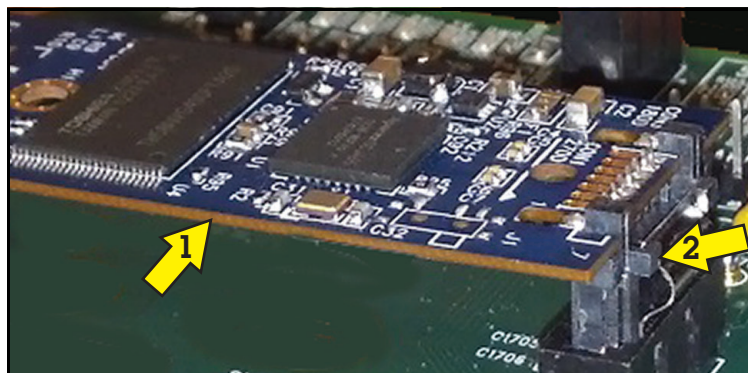

Figure 12. SATA Drive Board
- Figure 12. SATA Drive Board 8
15. If a SATA drive board is installed instead of an SD card, it will be located in the middle of the CPU board (pointer 1 in Figure 12):